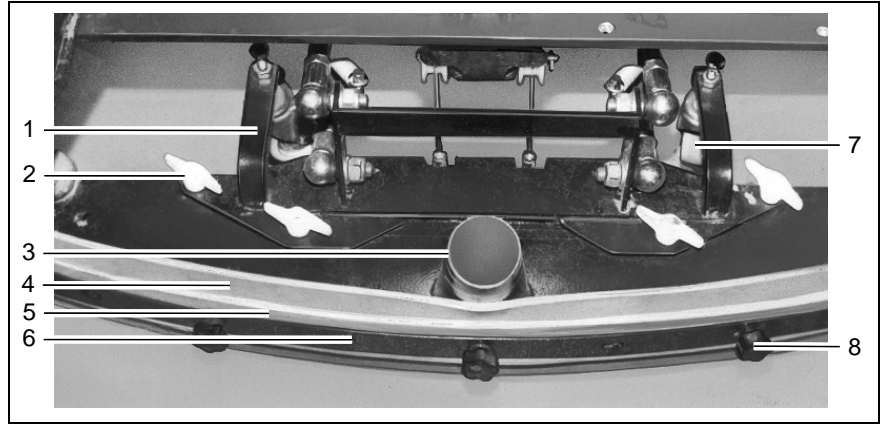

Fig. 35
5. Pull the suction hose from the connection nozzle (Fig. 35/3) of the squeegee.
6. Loosen the wing nuts (Fig. 35/2) on the holding attachment.
The sealing strips (Fig. 35/4) can be changed without the need for any tools:
2. Unscrew the knurled nuts (Fig. 35/8).
3. Remove the sealing strip, support strip and clamping rail (Fig. 35/4-6).
5. Tighten the knurled nuts (Fig. 35/8) evenly, starting from the center and working on alternate sides.
The squeegee stands with the sealing strips (Fig. 35/4) and support rollers (Fig. 35/7) on the ground. To increase the squeegee contact surface of the sealing strips (Fig. 35/4) on the floor, e.g. following wear of the sealing strips (Fig. 35/4), the support rollers (Fig. 35/7) must be set higher:
3. Adjust the support rollers (Fig. 35/7) on the right and left evenly:
5. Tighten the counternuts on each support roller (Fig. 35/7).